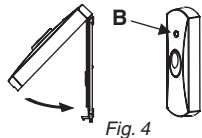

Fig. 4
When the bell push button is pressed, the confidence light (B) in Fig. 4, will illuminate to reassure the caller that the bell push is working. The light will flash 5 times when the battery needs replacing.